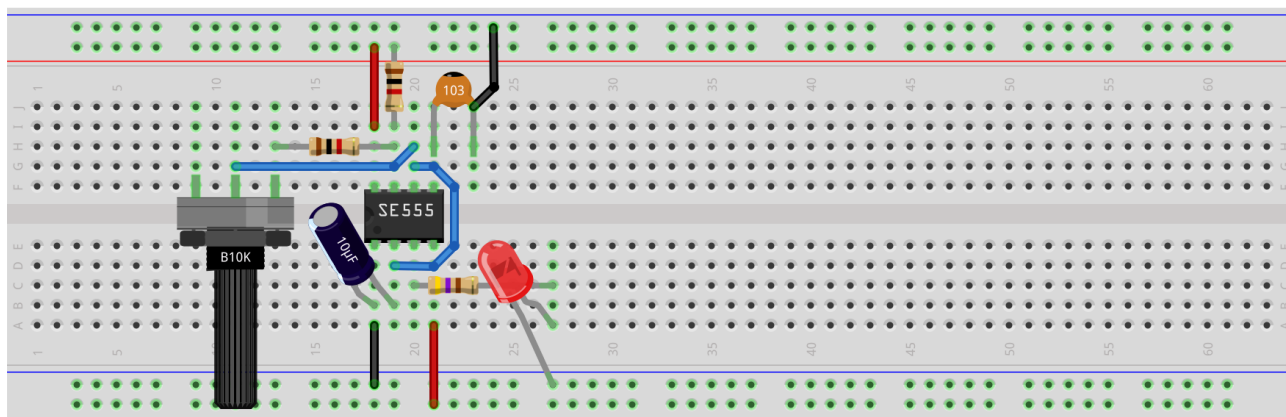

Figure 4: 555 Timer Circuit on a Breadboard
- 1.2 Power on the circuit and turn the potentiometer to its highest resistance. (If you set up the circuit as indicated in Figure 4, this should be all the way to the left). Slowly turn the potentiometer to decrease its resistance until it is zero (all the way to the right). What do you observe? Describe the circuit's initial and final states with respect to *frequency*.